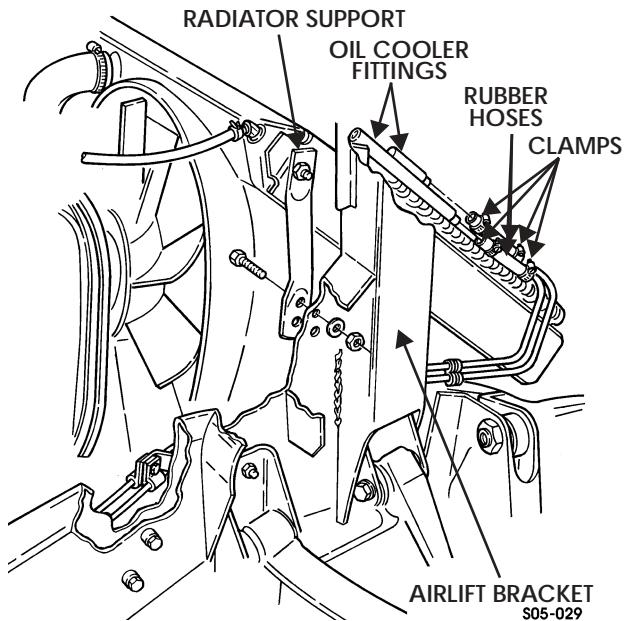

Figure 5-79: Radiator Supports
6. Remove four locknuts, washers, and capscrews securing radiator supports to airlift bracket (Figure 5-79). Discard locknuts.
8. Loosen clamps and disconnect rubber hoses from oil cooler fittings (Figure 5-79).
5. Install radiator supports on airlift brackets with four capscrews, washers, and locknuts. Tighten locknuts to 31 lb-ft (42 N•m) (Figure 5-79).